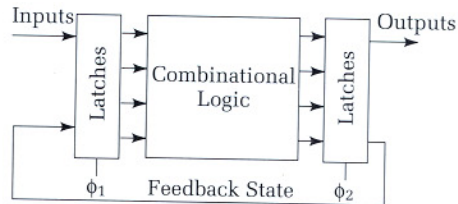

Figure Ex6.23 Two-phase clocked sequential circuit for Exercise 6.23.
- 6.23** (*Two-Phase Clocking*) Consider the two-phased clocked sequential circuit of Figure Ex6.23. Assume that the ϕ_1 and ϕ_2 latches have 5-ns setup times, 5-ns hold times, and 10-ns propagation delays in the worst case. Given that the combinational logic block has a maximum delay of 100 ns and a typical delay of 75 ns, what is the shortest possible period between the rising edge of ϕ_1 and the falling edge of ϕ_2 ? Show how you obtained your result.